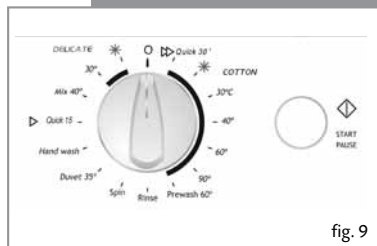

fig. 9
- Select the normal programme at 60°C (Figure 9).
- Press the Start/Pause button (Figure 9).